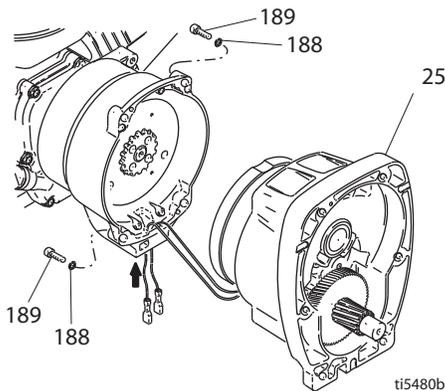
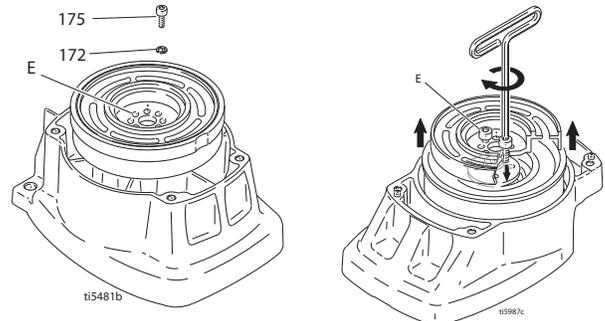

Fig. 4
Fig. 5
- 4 Fig. 4. Remove four screws (189) and lock-washers (188) and pinion assembly (25).
- 5 Fig. 5. Place pinion assembly (25) on bench with rotor side up.
- 4 Fig. 5. Place pinion assembly on bench with rotor side up.
- 5 Apply thread sealant to screws. Install four screws (170) and lock-washers (172). Alternately torque screws to 125 in-lb until rotor is secure. Use threaded holes to hold rotor.
- 6 Fig. 4. Install pinion assembly (25) with five screws (189) and lock-washers (188).